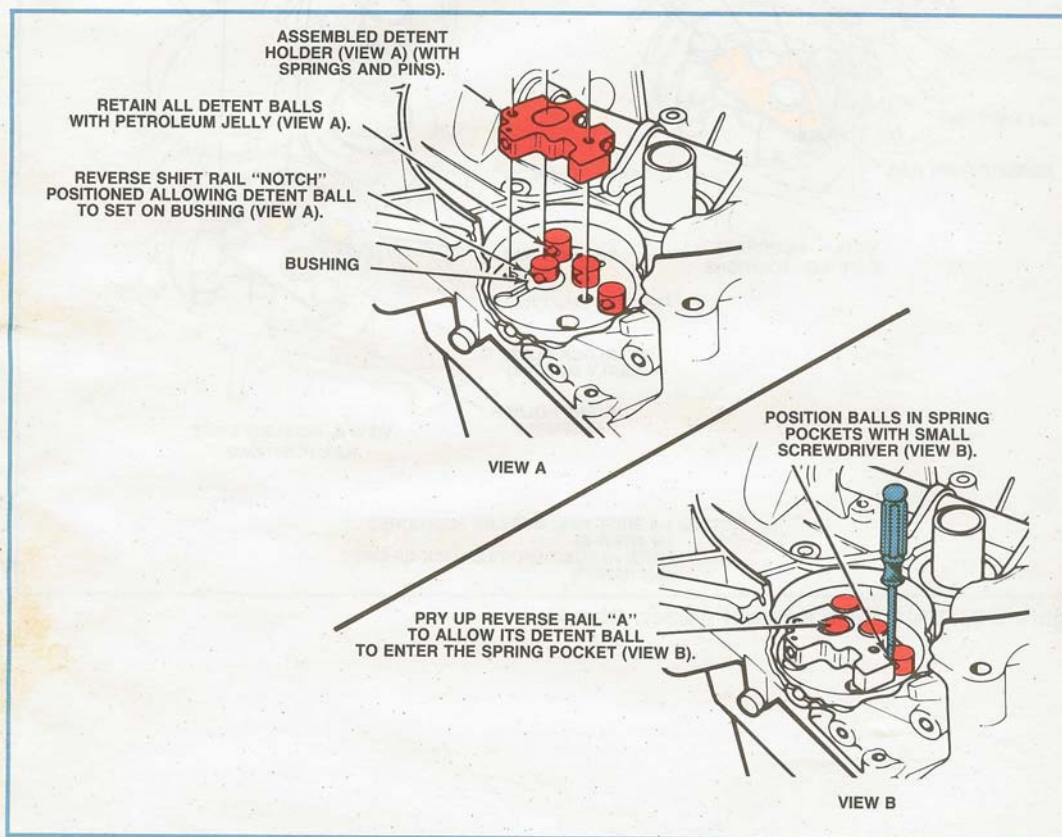

Figure 5-32, Detent Holder Installation.
4. Detent holder and spring assembly (Figure 5-32).